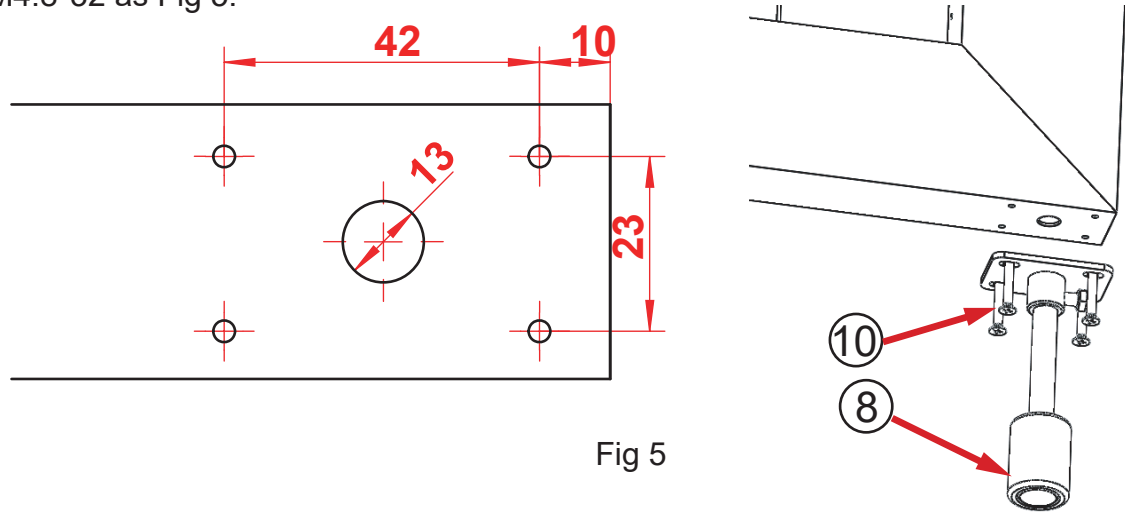

Fig 5
4. To install the ⑧ bottom guide roller, use $\phi 3.2$ and $\phi 13$ drills to drill holes in the bottom of the 2nd leaf door based on the following dimensions. When holes are ready, install the ⑧ guide roller with screws ⑩ M4.8*32 as Fig 5.